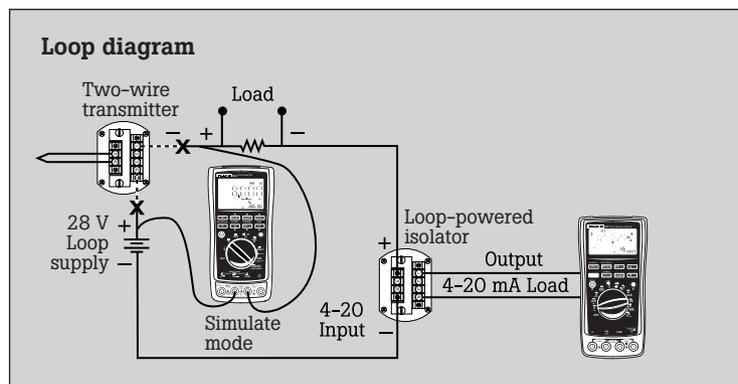

Figure 2
Fluke loop calibrators have a unique current simulation feature that, when connected to an external power source, allows you to precisely control current between 0 mA and 24 mA. When field checking a loop-powered isolator, the two-wire loop transmitter supplying signal current to the isolator for the loop may be removed and the calibrator connected in simulate mode to control loop current (Figure 2).
1. Disconnect the main loop transmitter and connect the Fluke 789 to the loop with the test leads plugged into the center or "Simulate" terminals of the calibrator (see Figure 2).
2. Set the 789 rotary switch to the mA output mode. Set the Fluke 789 to the 4-20 mA output mode. Make connection for simulate mA. The 789 is now outputting a precise 4 mA and is providing operating power to the input of the loop-powered isolator (see Figure 2).
3. Place a Fluke 187 or equivalent multimeter (1 μ A resolution is ideal; 10 μ A is acceptable), set in the mA measurement mode, on the output side of the isolator to monitor output current (see Figure 2).